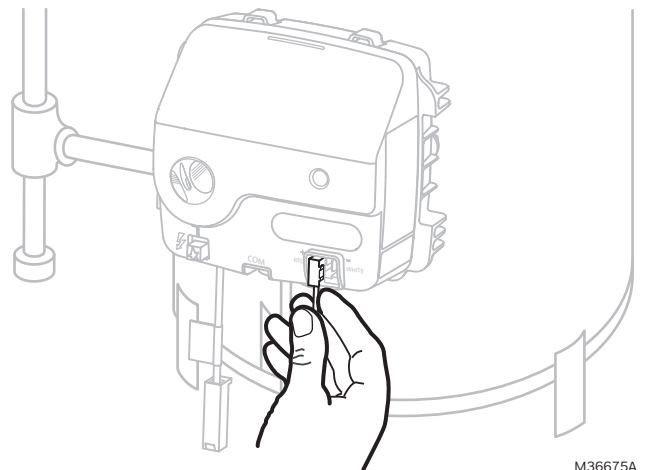

Fig. 2. Remove thermopile connectors.
1. Turn knob to off position. Remove the thermopile connectors from the Resideo water heater controller. See Fig. 2.